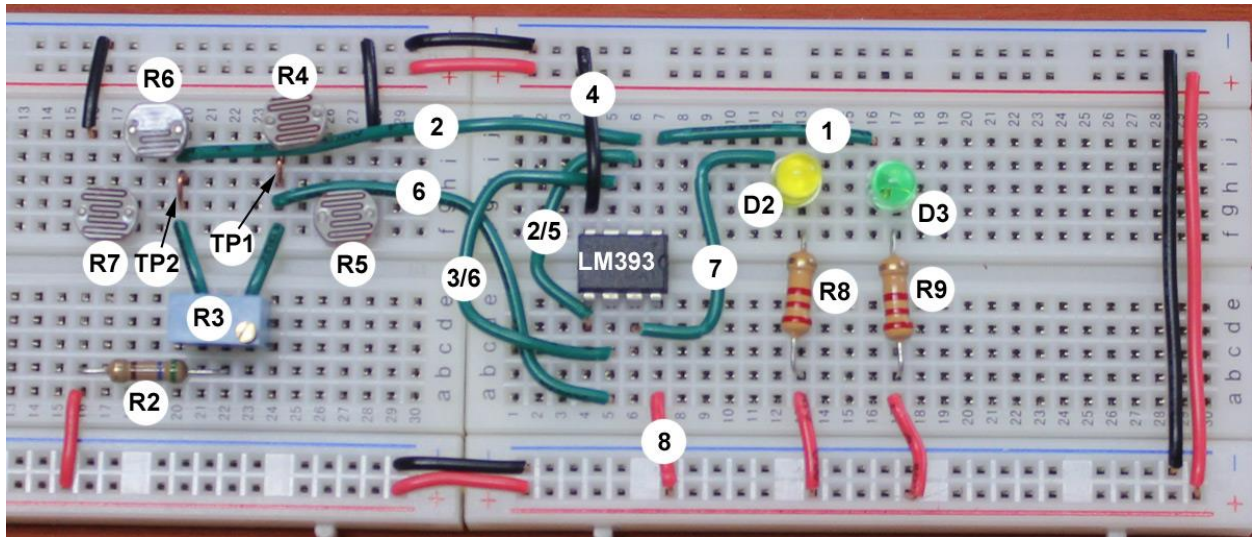

Figure 5. Wiring for the voltage comparator circuit.
2. First, note that the LM393 is oriented with the notch on the right, which places pin one near the top right corner and pin eight near the bottom right corner. Connect a red wire to the same row that contains pin 8 of LM393. Connect the other end of the wire to the bottom positive power bus. This wire is labeled number 8 in Figure 5.
3. Connect a green wire to test point 2 (TP2) and the other end of the wire to the same row that has pin 2 of LM393. This wire is labeled number 2 in Figure 5.
4. Connect a green wire to test point 1 (TP1) and the other end of the wire to the same row that has pin 6 of LM393. This wire is labeled number 6 in Figure 5.
5. Connect a green wire to the same row that contains pin 2 of LM393 and the other end of the wire to pin 5. This wire is labeled 2/5 in Figure 5.
6. Connect a green wire to the same row that contains pin 3 of LM393 and the other end of the wire to pin 6. This wire is labeled 3/6 in Figure 5.
7. Connect a black wire to the same row that contains pin 4 of LM393. Connect the other end of the wire to the top negative power bus. This wire is labeled number 4 in Figure 5.
8. Insert the yellow and green LEDs (D2 and D3) into the board to the right of LM393 (see Figure 5). All four wires of the LEDs must be in different rows. The cathode wire of each LED should be on its left side as in the photo.
9. Connect resistor R8 (2,200 ohms) to the same row of holes that contains the anode of the yellow LED (D2). Connect the other end of R8 to a row on the other side of the gap (see Figure 5)
10. Connect a red wire to the same row that contains R8 (see Figure 5). Connect the other end of that wire to the bottom positive power bus.
11. Connect resistor R9 (2,200 ohms) to the same row of holes that contains the anode of the green LED (D3). Connect the other end of R9 to a row on the other side of the gap (see Figure 5)
12. Connect a red wire to the same row that contains R9 (see Figure 5). Connect the other end of that wire to the bottom positive power bus.
13. Connect a green wire to the same row that contains the cathode of the green LED (D3). Connect the other end of that wire to the same row that contains pin 1 of LM393. This wire is labeled number 1 in Figure 5.
14. Connect a green wire to the same row that contains the cathode of the yellow LED (D2). Connect the other end of that wire to the same row than contains pin 7 of LM393. This wire is labeled number 7 in Figure 5.